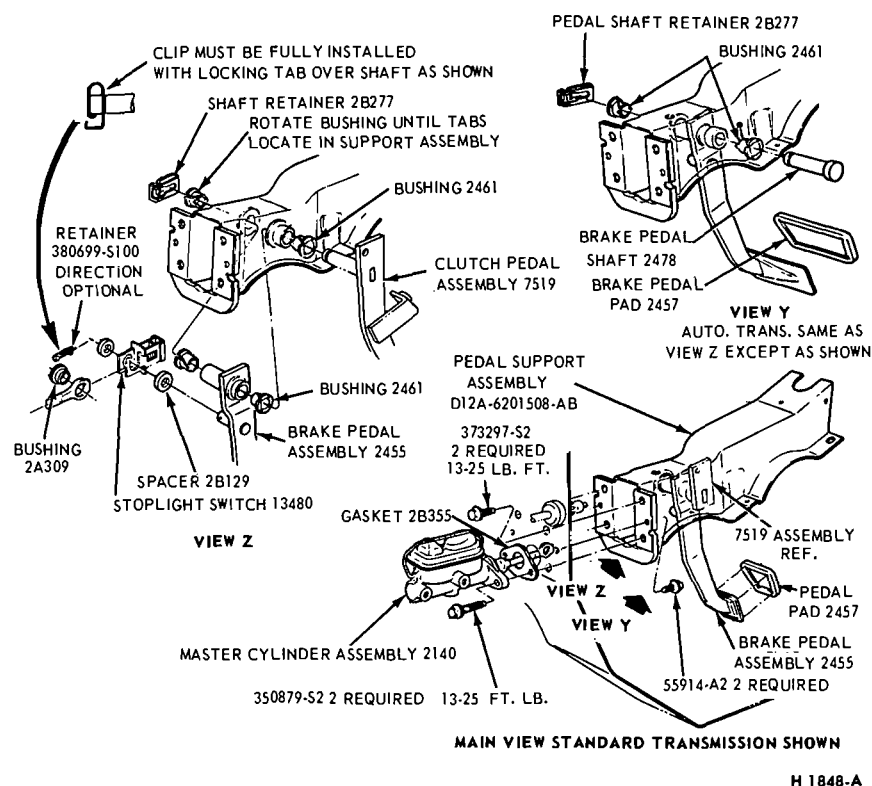

FIG. 12 Master Cylinder and Brake Pedal Installation—Pinto
2. Remove the self locking pin and slide the stop light switch off the brake pedal pin just far enough for the switch outer hole to clear the pin, and then lower the switch away from the pin. Be careful not to damage the switch during removal. Slide the master cylinder push rod and the nylon washers and bushing off the brake pedal pin (Figs. 12 and 13).
1. Apply a coating of SAE 10 Engine oil to the bushings and locate bushings in their proper places on the pedal assembly and pedal support bracket (Figs. 12 and 13).
straddles the push rod with the switch slot on the pedal pin and the switch outer hole just clearing the pin. Slide the switch completely onto the pin, and install the nylon washer as shown in Figs. 12 and 13. **Be careful not to bend or deform the switch.** Secure these parts to the pin with the hairpin retainer.
1. Remove the clutch cable clevis shaft retainer and shaft from the clutch pedal (Fig. 12).
4. Slide the master cylinder push rod and the nylon washers and bushing off the brake pedal pin (Fig. 12).
5. Remove the retaining clip from the clutch and brake pedal shaft, then remove the clutch pedal and shaft assembly, the brake pedal assembly, and the bushings from the pedal support bracket (Fig. 12).
2. Position the brake pedal to the support bracket, then install the clutch pedal and shaft assembly through the support bracket and brake pedal assembly. Install the spring clip (Fig. 12).
4. Install the inner nylon washer, the master cylinder push rod, and the bushing on the brake pedal pin. Position the switch so that it straddles the push rod with the switch slot on the pedal pin and the switch outer hole just clearing the pin. Slide the switch completely onto the pin, and install the outer nylon washer as shown in Fig. 12. Secure these parts to the pin with the self-locking pin.